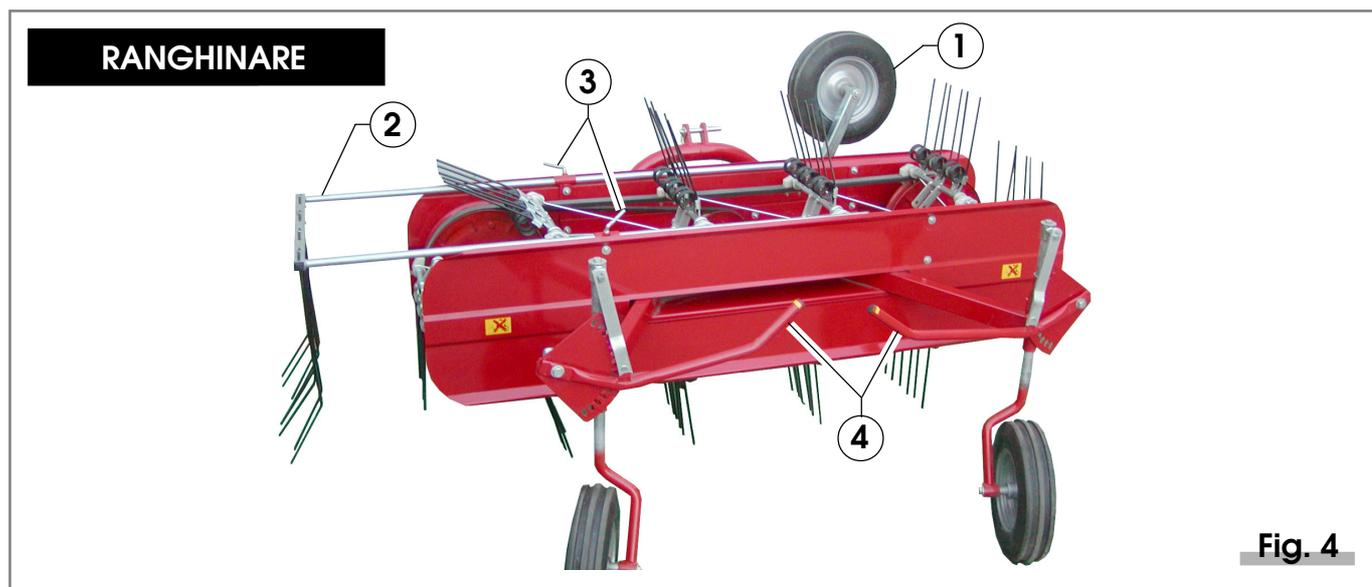

Fig. 4
- # Turn upwards the rear support wheel as shown in figure 4, item 1;
- # Push in the side hay guard (item 2, fig. 4) and stop it with the threaded coupling pins provided (item, 3, fig. 4).
- FOR RAKING (figure 4)
The driving band runs horizontally and must be adjusted with the springs about 1cm. above the ground so that fodder is gathered without causing excessive stress on mechanical parts. The fitting is adjusted by lowering the three points and using the two rear levers (item 4, figure 4) to adjust the distance of the band from the ground. The hay guard (item 2, figure 4) must be widened and stopped in an adequate position for the amount of hay being gathered.